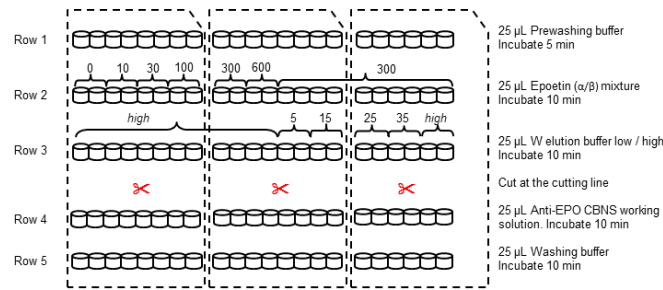

Figure 3. Setup when running the calibration curve and optimization of W elution buffer *low*.
7. Place microtiter wells into Nunc Frames. Dispense Prewashing buffer, sample mixture, W elution buffer low / high, Anti-EPO CBNS working solution and Washing buffer at the forefront of the wells with volumes of 25 μ L per well. See Figure 3.
8. Immerse the thin end of the strips one by one into the wells of row 1 with 5 seconds interval between each strip. Move the strips in the same order and time interval to the next row according to the incubation schedule and cutting shown in Figure 3. Do not interrupt the process until row 5.